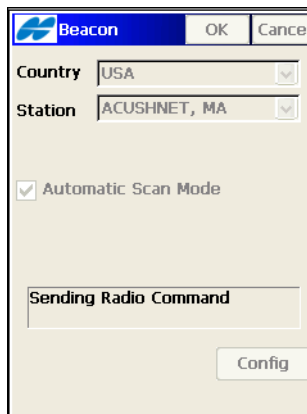

Figure 8-28. BR-1 Configuration
- **Config** – sends the appropriate configuration command for BR-1 radio channels (Figure 8-28):